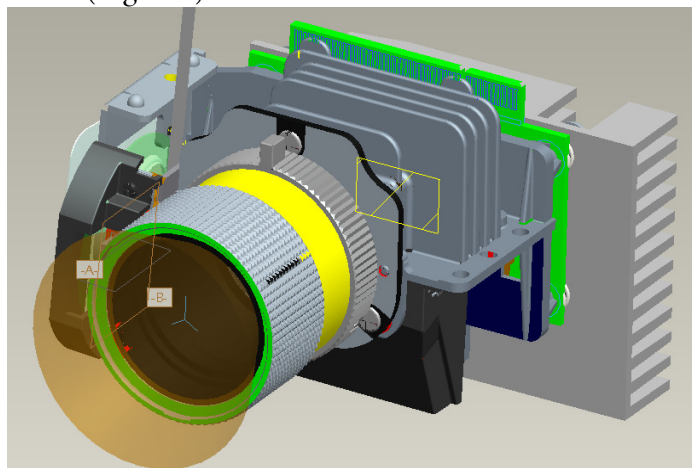

Fig. 7-8
7.9 Assemble “Ring Focus” well (Fig. 7-8).